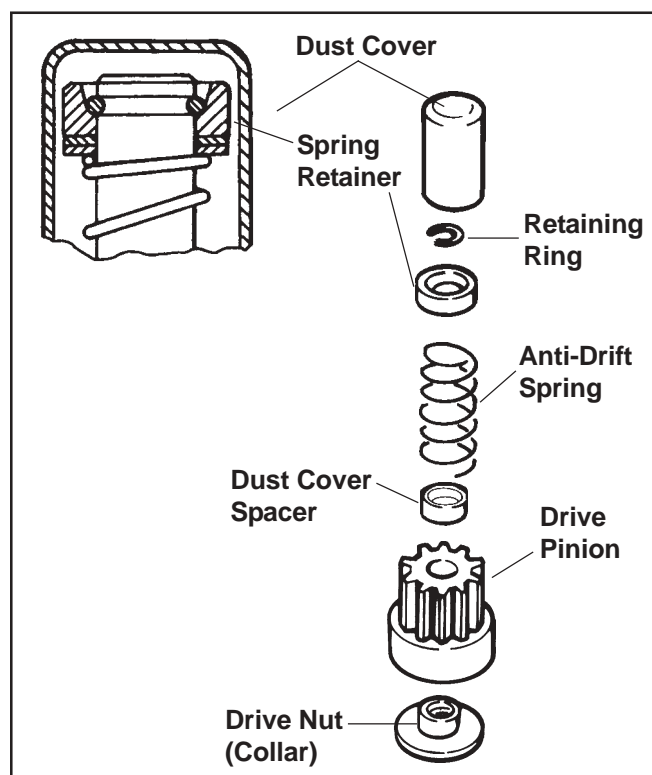

Figure 8-35. Drive Components, "Bonded" Inertia Drive Starter.
1. The rubber dust cover has a molded lip on the inside that snaps into a groove in the dust cover spacer (see Figure 8-35). Turn the drive pinion clockwise until it reaches the fully extended position. While holding it in the extended position, grasp the tip of the dust cover with a pliers or vise grip and pull it free from the spacer.
3. Again referring to Figure 8-35, grasp the spring retainer and push it toward the starter, compressing the anti-drift spring and exposing the retaining ring.